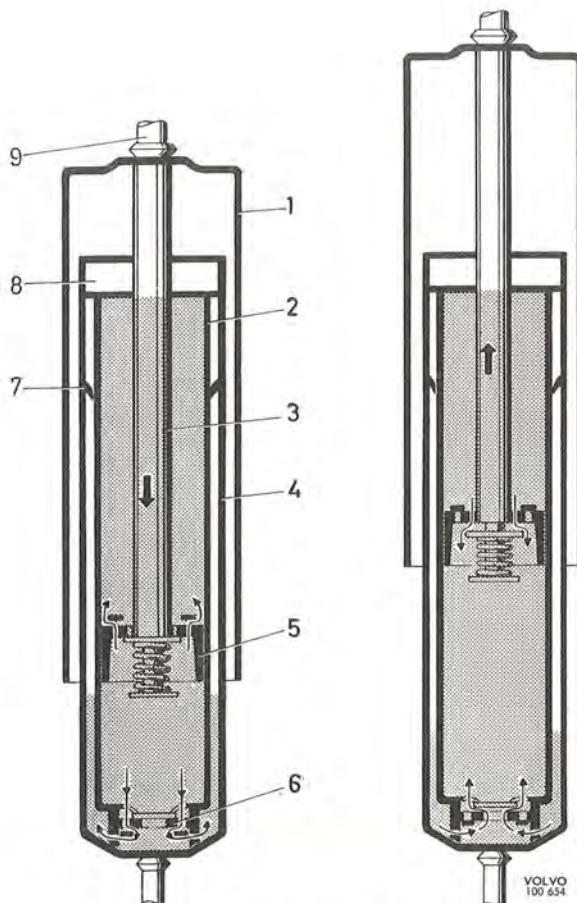

Fig. 7-6. Shock absorber, function
The design of the shock absorbers is shown in Fig. 7-6. The outer cylinder (1) serves only as a protection against dust and dirt. The other two cylinders (2) and (4) are concentrically arranged, one inside the other. The inner cylinder (2) is the actual working cylinder, the lower end of which is provided with a valve (6). Inside the inner cylinder there is a piston (5) in which holes are drilled, the passage of oil through these holes being controlled by valves.